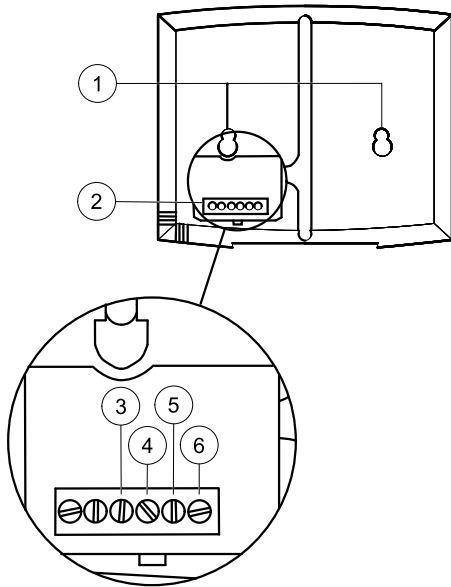

Fig. 10 Control panel wire connections
The control panel is delivered connected to the Corrigo control unit situated in the electrical connection box. Cable length is 10 m. In case the control panel needs to be detached from the signal cable it is possible to loosen the wires on the back of the control panel (figure 10).
2. If needed, drill two holes in the wall to hang the control panel (center to center: 60 mm) (pos.1, figure 10).